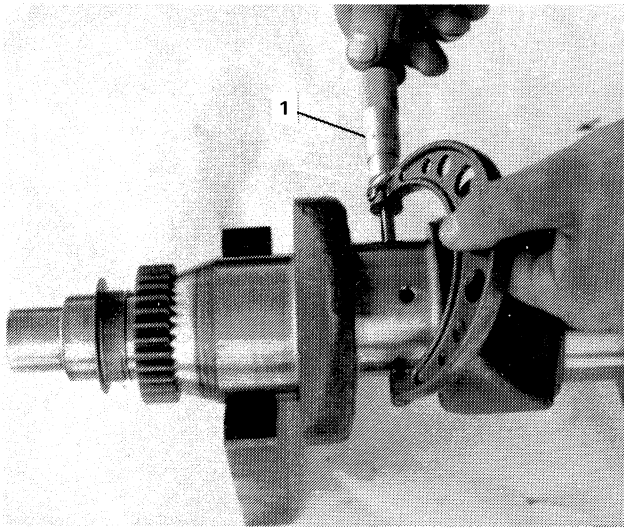

Figure 26
4. Measure the roundness and taper of the journals and pin with a micrometer, Figure 26. If the measured value exceeds specified limits page 28, replace the crankshaft.